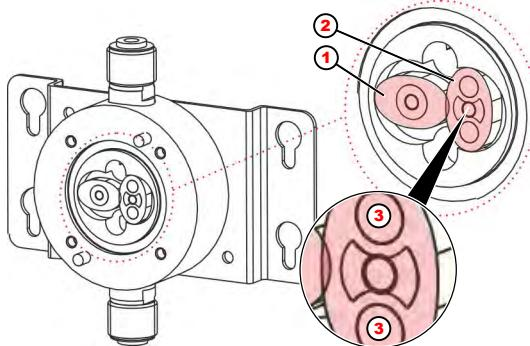

Fig. 6: Ovalradzähler
The oval gear wheels must be inserted in such a way that they are offset exactly 90° to each other (Fig. 6, pos. 1 + pos. 2).
- 1.** ➔ Install oval gear wheels after cleaning / replacement 90° offset to each other (Fig. 6, pos. 1 + pos. 2).
The oval gear wheel with the welded magnets (Fig. 6, pos. 2) must be positioned under the sensor in the cover.